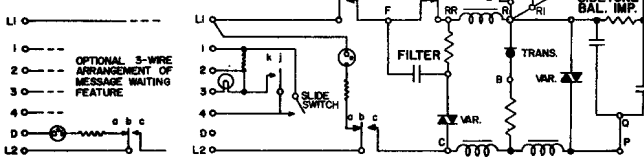

FIGURE 1. DIAGRAMS 701--(L)37- TELEPHONE AND 701--(L)38- TELEPHONE
- 1.02 The installed telephone must be provided with a separately mounted, external ringer, types 136, 137, 138 and 139 are recommended. See Figure 1 for ringer wiring diagram.